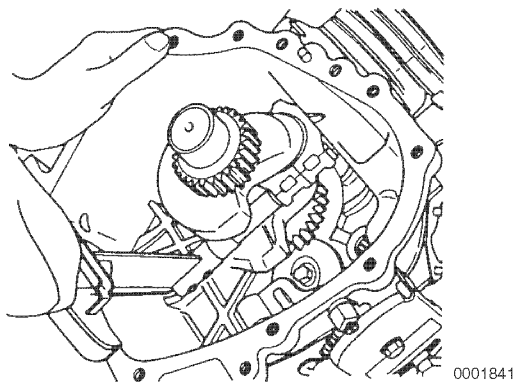

Figure 6-97
7. Apply a light coat of clean engine oil to the rod cap bolts. Install the connecting rod cap. Tighten the connecting rod bolts **Figure 6-97** to the specified torque in two stages as shown in chart below. See *Special Torque Specifications* on page 6-18 for specifications.